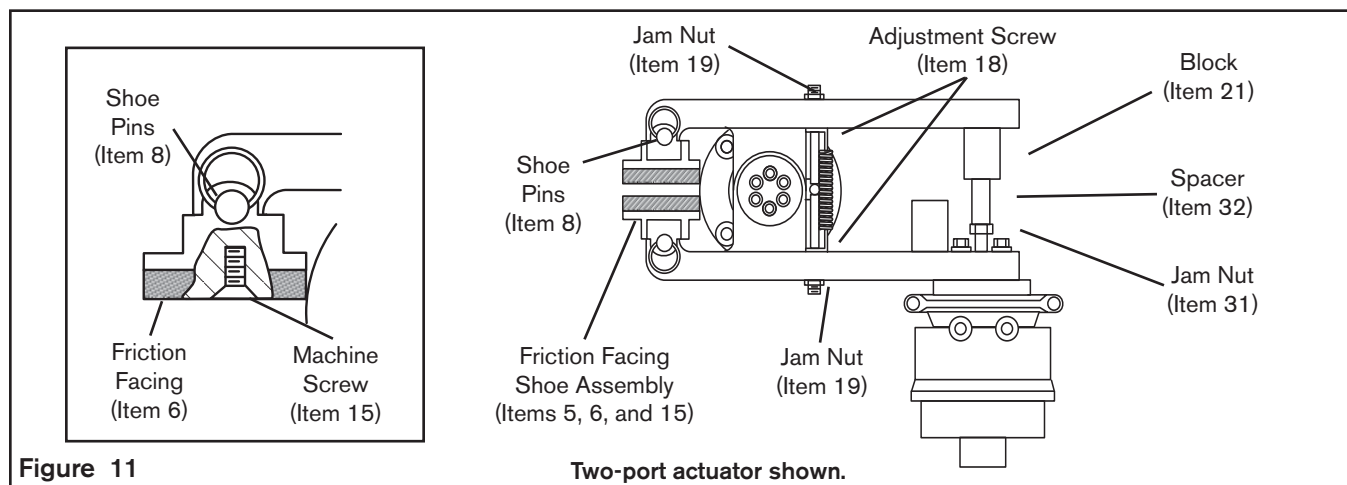

Figure 11
1. Manually release the spring actuators (See Figure 11).
4. Remove the Shoe Pins (Item 8) (See Figure 11).
5. Remove the Friction Facing Shoe Assembly (Items 5, 6, and 15) (See Figure 11).
7. Using new Machine Screws (Item 15), install new Friction Facings (Item 6) (See Figure 11).